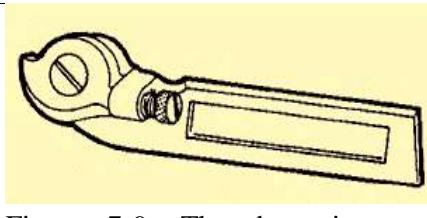

Figure 7-9. Thread cutting tool holder and cutter.
**The Thread Cutter Tool:** Is specially mounted in a thread “cutter holder” specially designed for production of high-speed thread cutting operations. The special design of the cutter allows for sharp and strong cutting edges which need only to be re-sharpened occasionally by grinding the face. The cutter mounts into a special tool holder that mounts to the lathe tool post. (Figure 7-9).